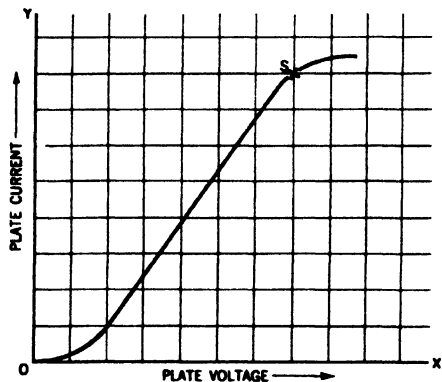

**Fig. 37-1.** Circuit to show relationship between plate current and plate voltage.
If we connect our diode as in Figure 37-1, and keep the current from the filament battery constant, we are able to see the relationship between changes in the B or plate voltage and the number of electrons attracted to the plate (that is, the amount of plate current as measured by the milliammeter).
**Plotting the Diode Characteristic Curve.** If we plot our findings on a graph, we get a curve similar to that of Figure 37-2. This curve is called the *characteristic curve* of the diode. Arrange the circuit as shown in Figure 37-1 with a clip on one of the leads to the B battery. Connect a voltmeter across the part of the B bat-